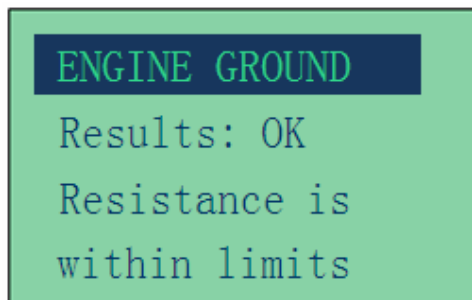

Figure 30
10. If the measured resistance reading is within limits, then it will display as follows (Fig. 30)